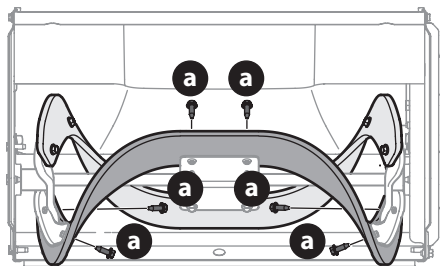

Figure 31
3. Remove the existing rubber paddles by un-threading the hex washer screws (a) which secure them to the auger (Figure 31).